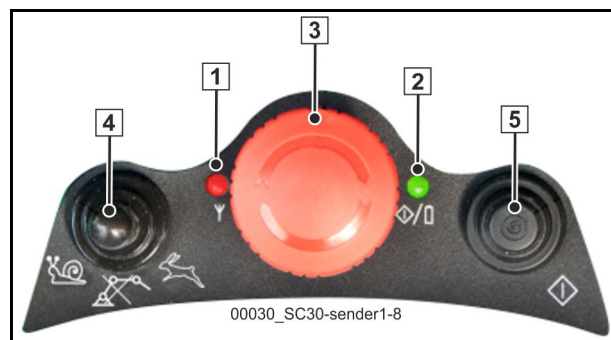

Fig. 413
6. Actuate button 5 (**Fig. 413**) on the transmitter within 45 seconds and hold for 10 seconds until the buzzer in the transmitter sounds.
8. Release button (5) (**Fig. 413**) and wait until the buzzer produces 5 beeps in quick succession and the transmitter is switched off automatically.
9. Switch on the transmitter again with button (5).